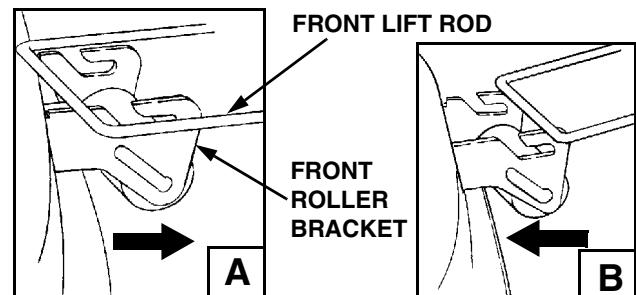

Figure 39
- Raise the implement lift handle to its highest setting. Slide the mower deck forward, so the front lift rod rests to the rear of, and free of, the front roller bracket slots of the deck (Refer to Figure 39-A).
- Raise the front lift rod upward and slide the mower deck rearward. Lower the front lift rod so it rests on the front roller bracket of the deck, forward of the slots (Refer to Figure 39-B).